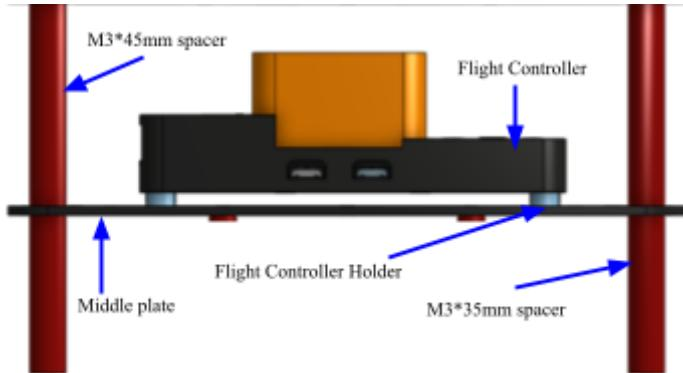

Figure 27: assembled view of middle plate with spacers
- **Top and Bottom spacer fixing:** Fix M3 x 45mm spacers to the 4 top and bottom corners of the middle plate as shown in Figure 27.